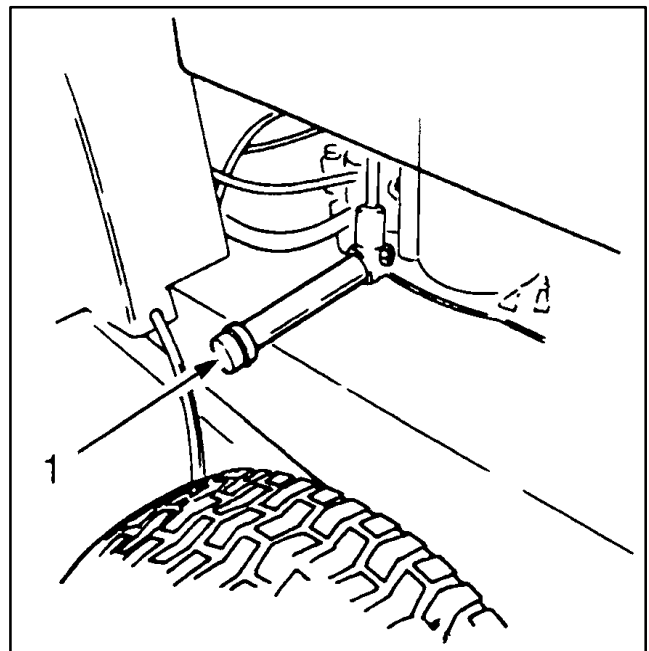

Figure 14
- B. Turn the engine off and place the drain pan below the drain plug (Fig. 14). Remove the drain plug, and allow all oil to flow into the drain pan. Reinstall the drain plug after oil stops flowing.